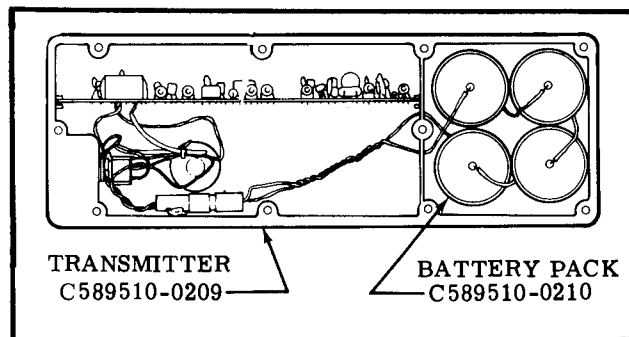

Figure 16-14. Lithium 4 Cell Battery Pack Installations
16-94. REMOVAL AND INSTALLATION OF LITHIUM FOUR (4) CELL BATTERY-PACK. (Refer to figure 16-14.)
- d. Place new battery-pack in the transmitter with four batteries as shown in the case in figure 16-14.
- e. Connect the electrical connector as shown in figure 16-14.